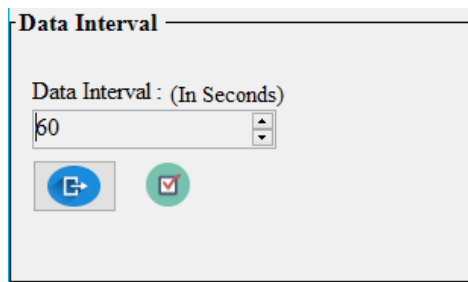

Figure 35
- If all settings are done correctly then  right check will appear on window or if setting is not done properly, then  wrong check will appear on window as shown in Figure 35